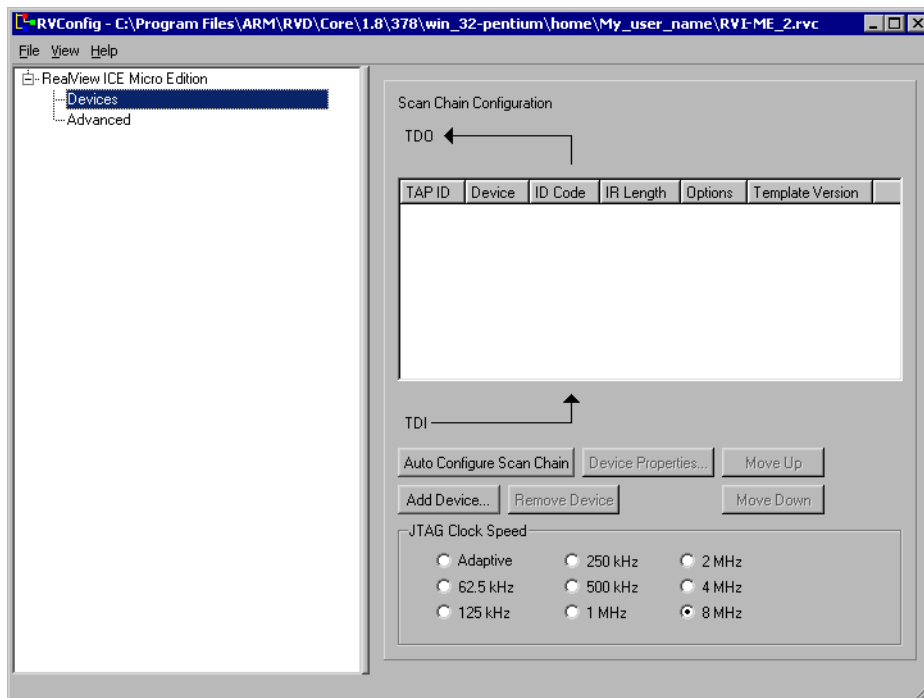

Figure 14-4 Configuring an RVI-ME interface unit
2. Select the option **Configure Device Info...** to display the RVConfig dialog box shown in Figure 14-4.